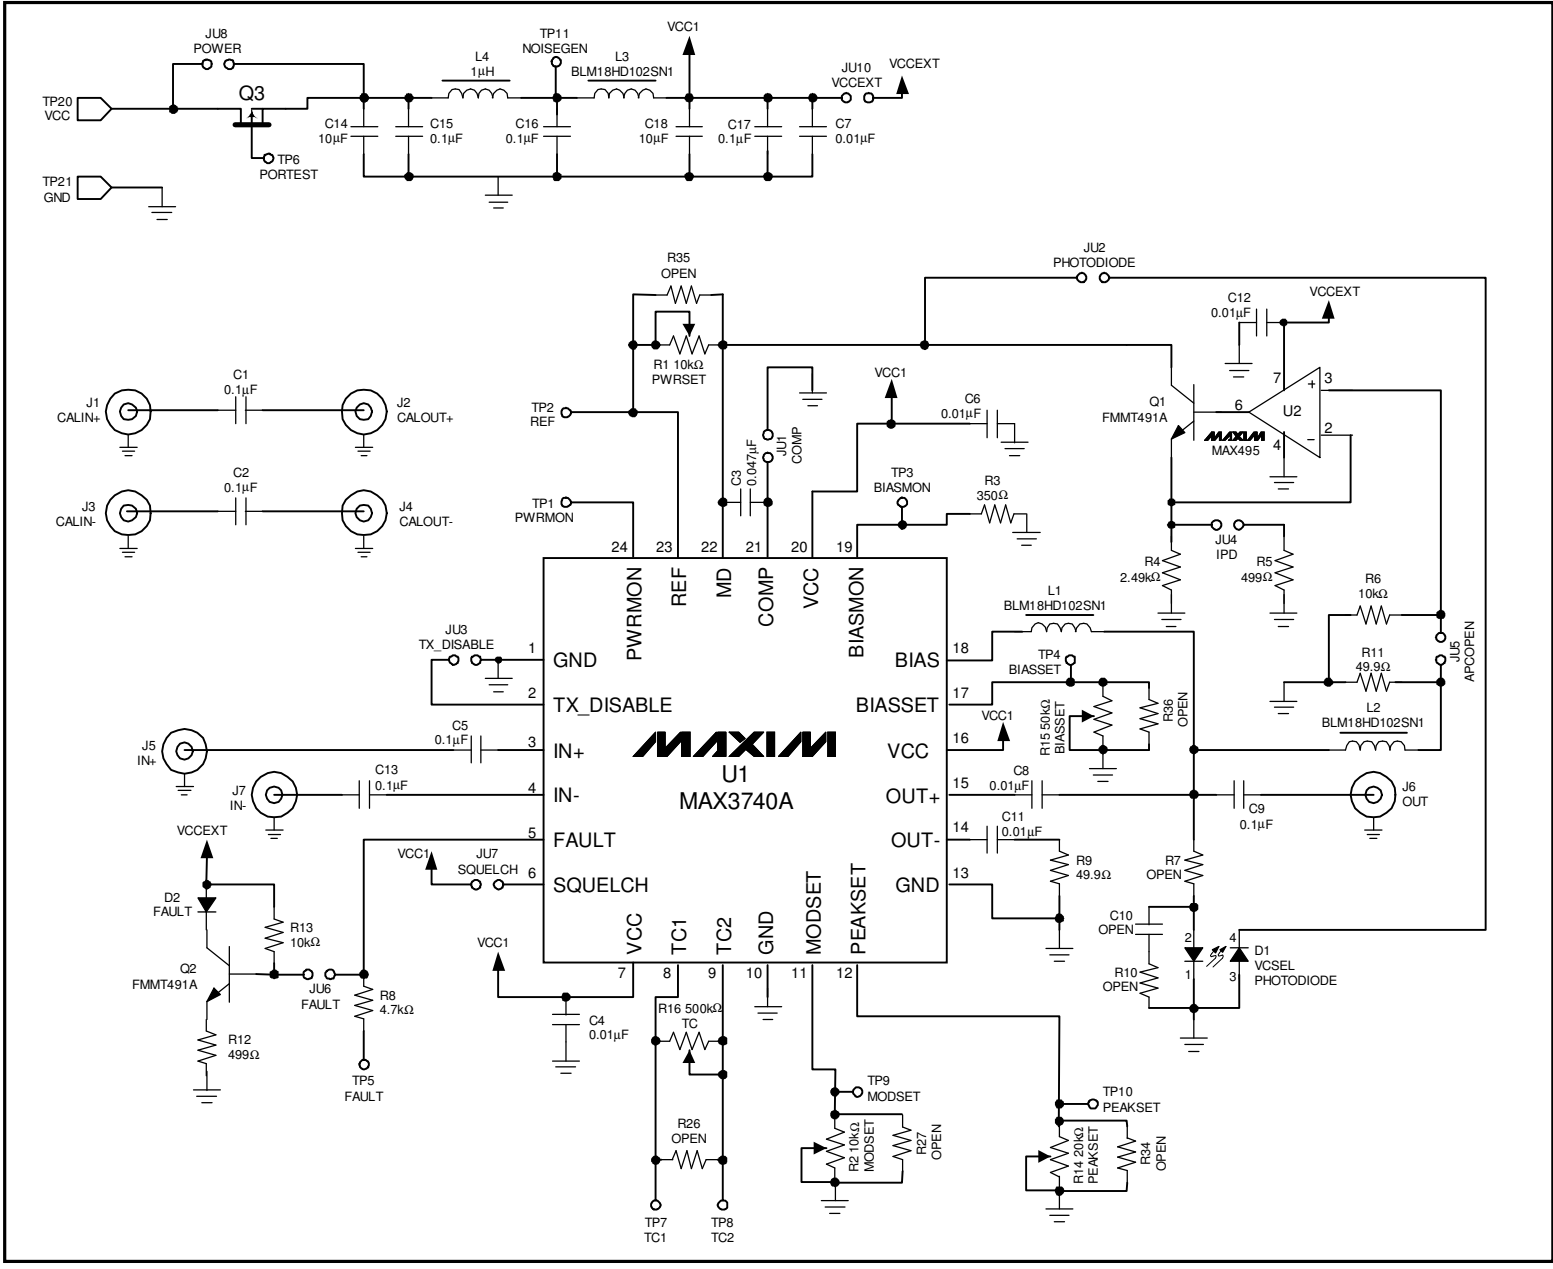

Figure 1. MAX3740A EV Kit Schematic Diagram
- 5) Connect a common cathode VCSEL as shown in Figure 1. Keep leads short to reduce reflection.
- 7) Adjust R1, the RPWRSET potentiometer, for 10kΩ resistance between TP2 (REF) and pin 1 (MD) of JU2.